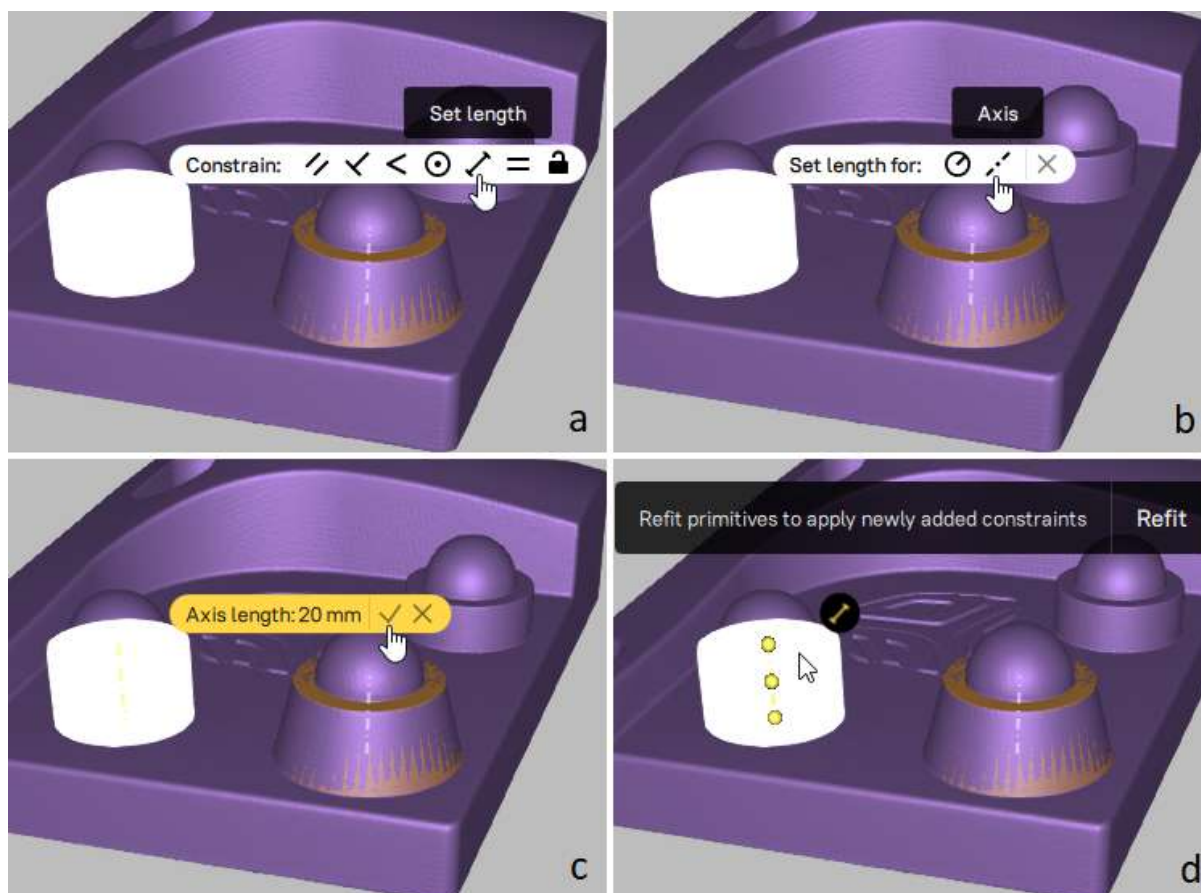
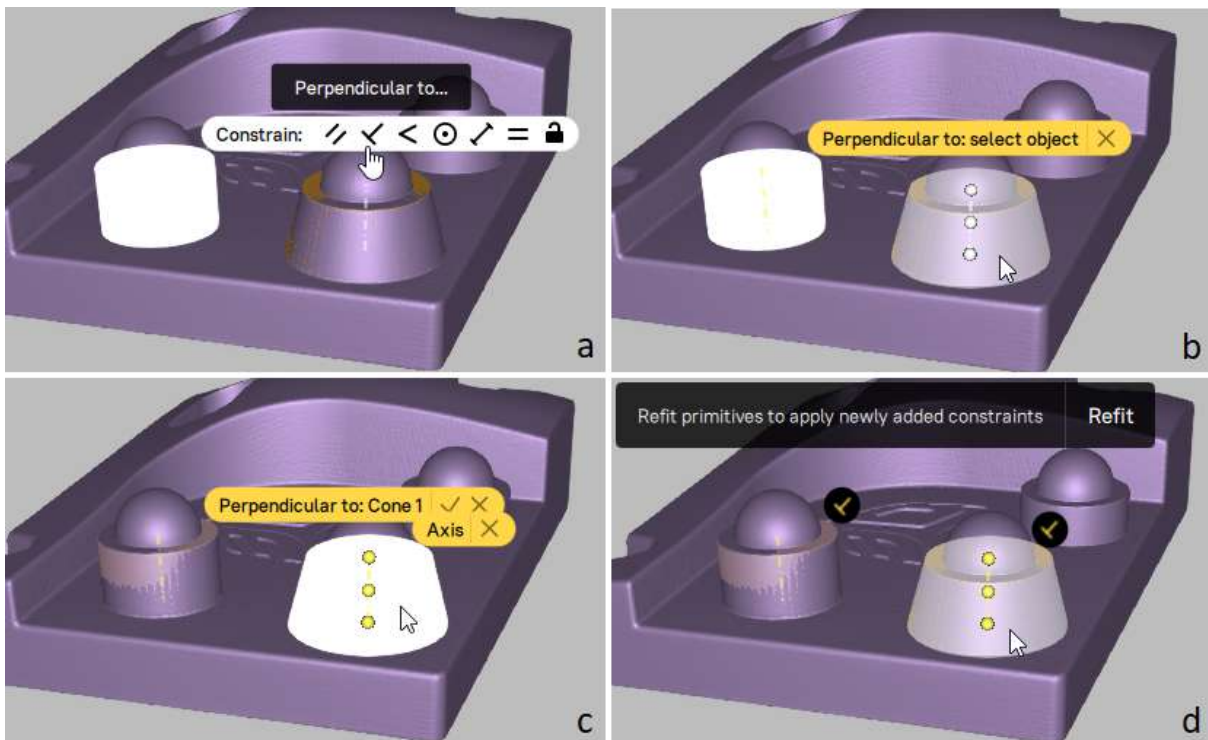
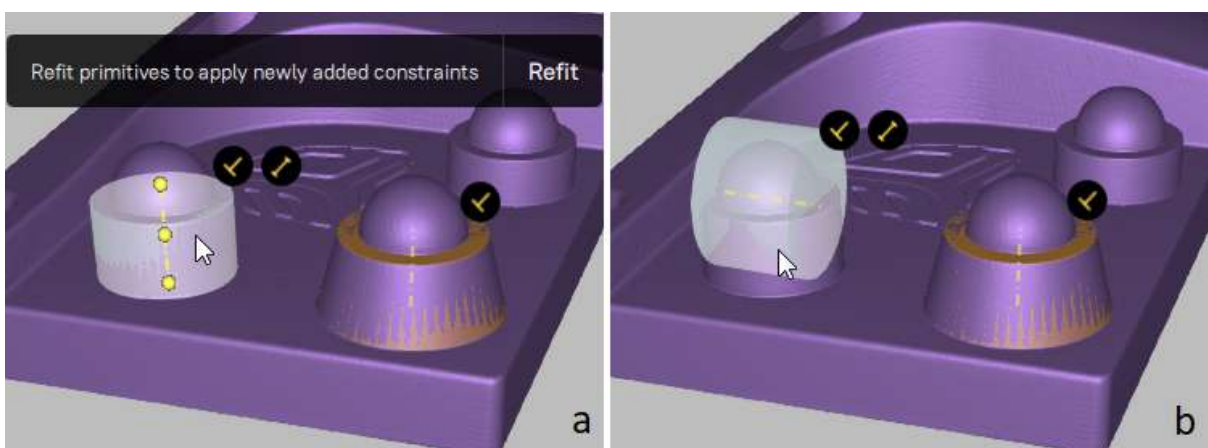

Figure 127: Example for specifying CAD primitive constraints: setting the height of a cylinder.
Figure 128: Example for specifying CAD primitive constraints: setting the requirement that the axes of two primitives be perpendicular to each other.
Figure 129: Example for applying CAD primitive constraints.
2. Click the desired primitive. The *Constrain* pop-up toolbar appears with icons for the applicable constraint types (see an example of such a toolbar for the case of a cylinder in Figure 127, a and Figure 128, a).
- For , click one of the icons of primitive sizes on an additional pop-up tool bar if it appears (see an example in Figure 127, b). Specify the desired primitive size value and click  on the appropriate pop-up toolbar (see Figure 127, c).
- For ,  (perpendicular to ...),  (at angle to ...), and  (coaxial to ...), click all other primitives to be involved into the new relation (see an example in Figure 128, b). When done, click  on the appropriate pop-up toolbar (see Figure 128, c).
occur at this point (see examples in Figure 127, d and Figure 128, d). A pop-up toolbar with the *Refit* button will appear at the top of the *3D View* window.
The primitives will be rebuilt to satisfy the specified constraints. Figure 129, b presents the result of applying both constraints illustrated in Figure 127 and Figure 128.